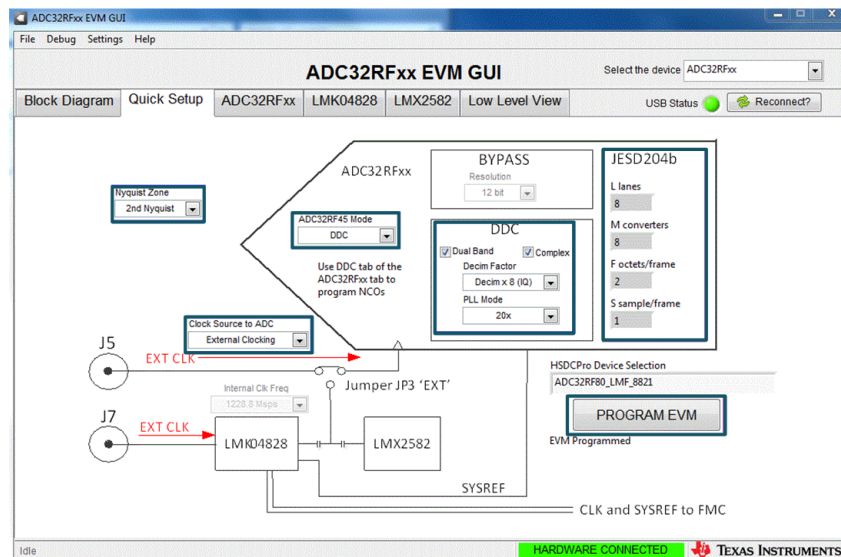
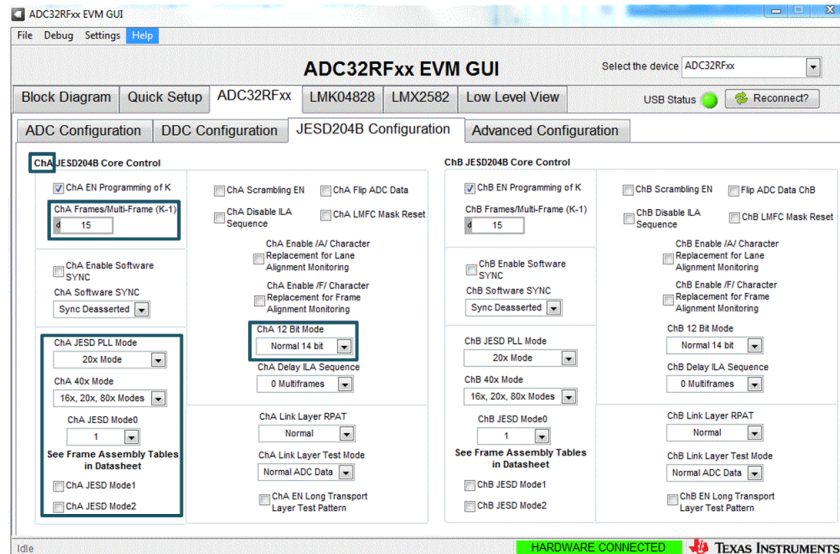

Figure 19. ADC32RFxx-EVM Quick Setup View DDC Mode
Figure 20. ADC32RFxx-EVM GUI JESD204B Configuration Tab DDC Mode
- After pressing the **PROGRAM EVM** button, the device is configured as shown in Figure 19 and Figure 20, indicating the 12-bit packed, 5-sample mode for LMFS82820.